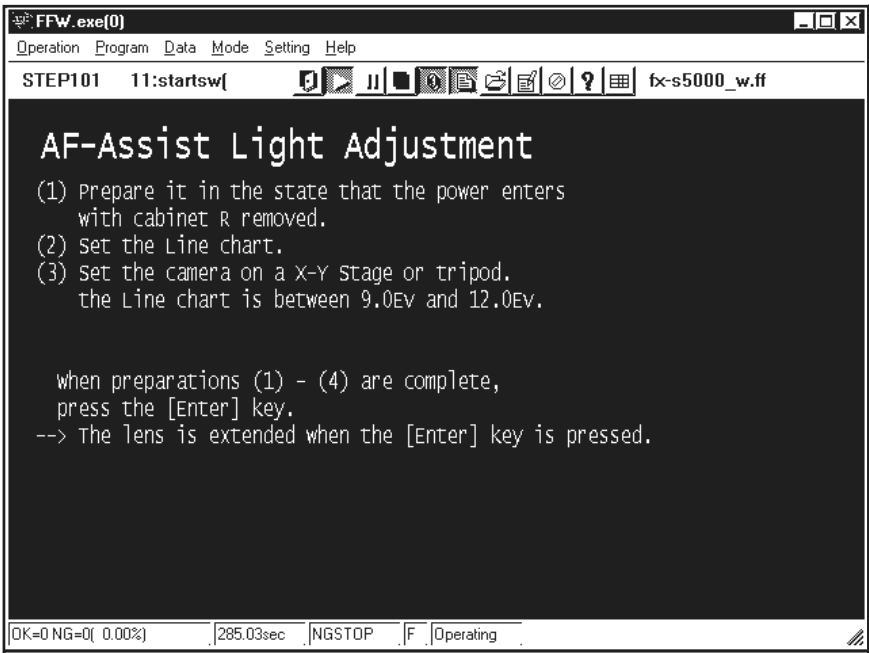

Fig.6
---> The [AF-Assist light adjustment Preparation Screen (Fig.6)] appears.